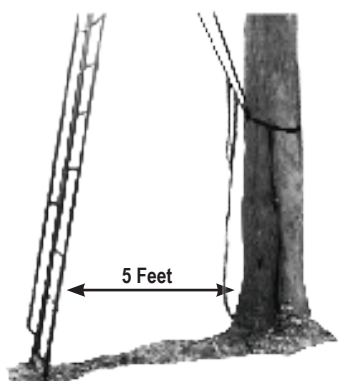

Figure 30
STEP 5: Make sure the ladder is not straight, but has about 15 degrees of angle as shown in Figure 30. This will put the bottom of ladder approximately 5 feet from the tree as shown in Figure 30. **NOTE:** The seat and standing platforms must be level for a proper and safe installation.